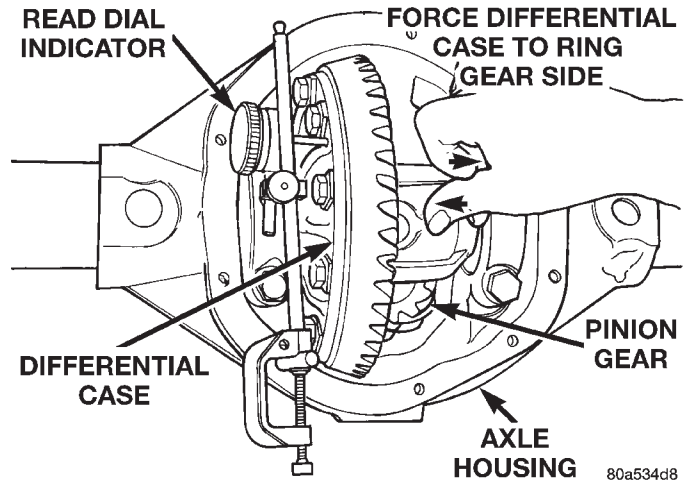

Fig. 60 Hold Differential Case and Read Dial Indicator
(23) Push and hold differential case to ring gear side of the axle housing (Fig. 60).
(24) Record dial indicator reading (Fig. 60).